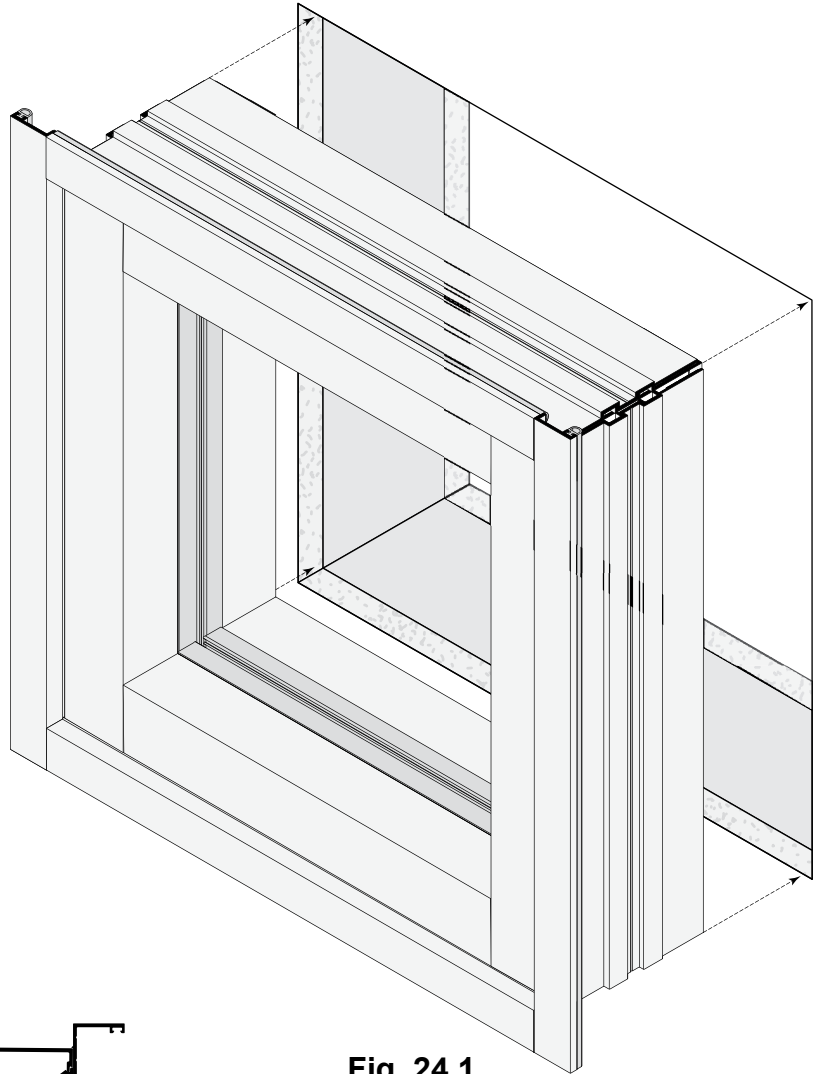
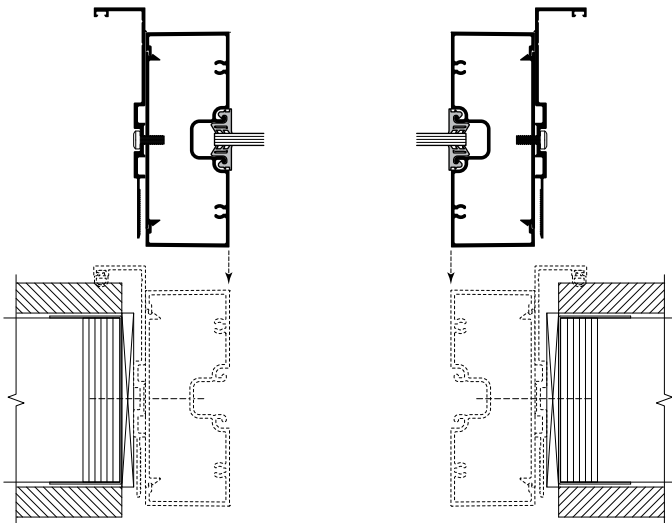

Fig. 24.1
Fig. 24.2
- A. Install assembled elevation into opening, shim and anchor at perimeter. **SEE Fig. 24.1 & Fig. 24.2**